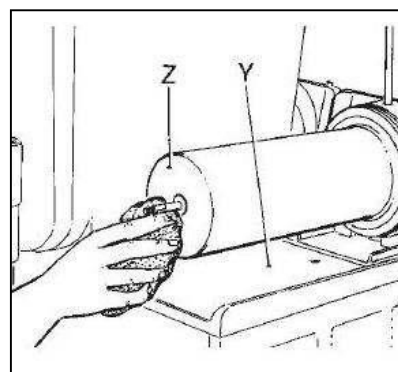

Fig. 15
-Thoroughly wash the evaporator and the drip tray surfaces with a sponge soaked with the sanitizer (see fig.15), leave at least 1-2 minutes and let it dry, do not rinse.